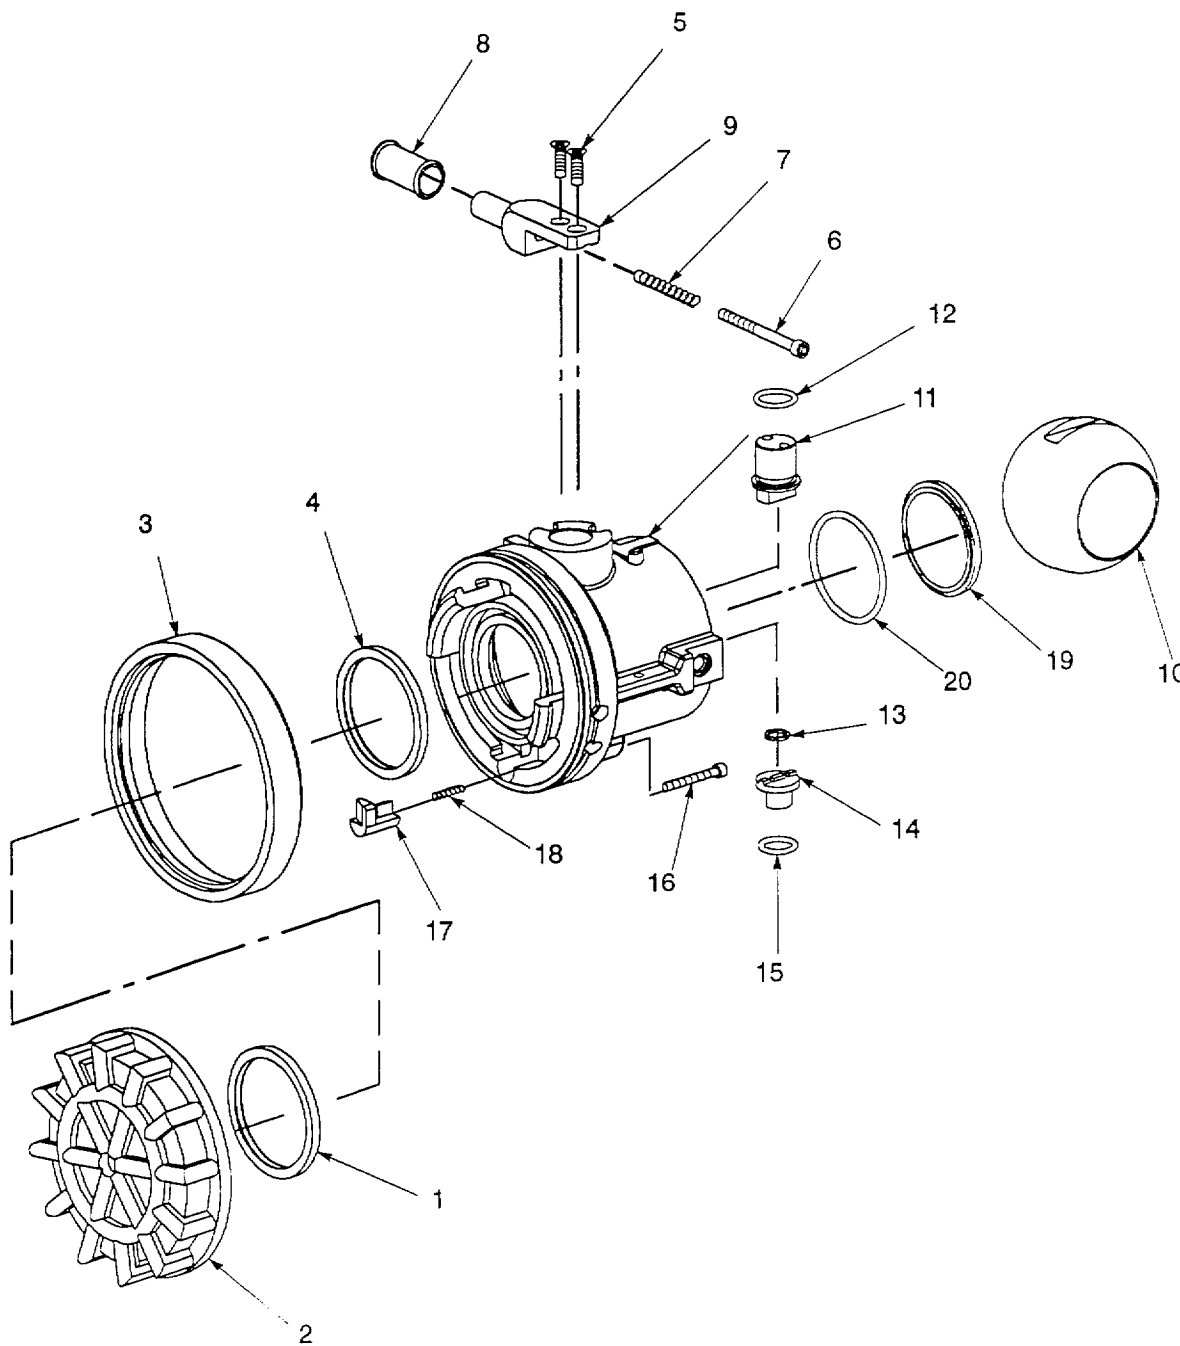
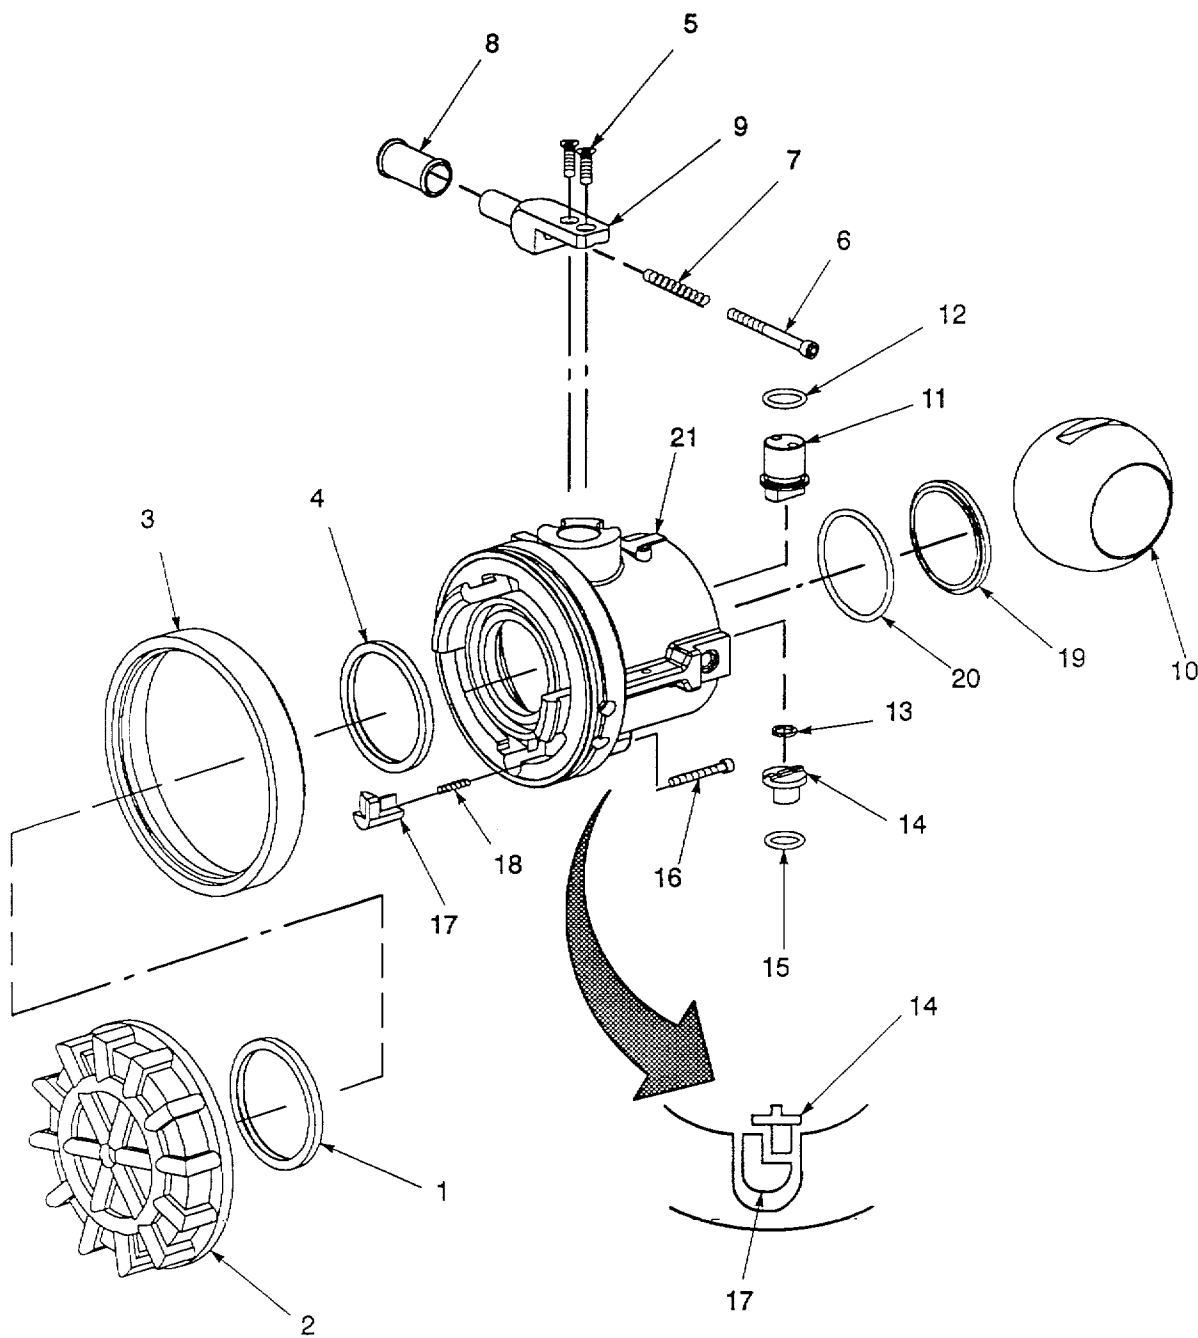

Figure 4-10. Valved Dry Break Coupling Disassembly.
Figure 4-11. Valved Dry Break Coupling Assembly.
b. Disassembly. Refer to figure 4-10.
d. Inspection. Refer to figure 4-10.
- (1) Inspect body (21) for cracks, scratched or damaged sealing surfaces, damaged locking lugs and corrosion.
- (2) Inspect dust cap (2) for cracks and damaged or missing locking lugs.
- (3) Inspect stop pin (14) for cracks, wear and scoring.
- (4) Inspect ball (10) for corrosion, flat spots and wear.
- (5) Inspect lock out pin (17) for wear.
e. Repair. Replace damaged and mandatory replacement components.f. Assembly. Refer to figure 4-11.**NOTE**